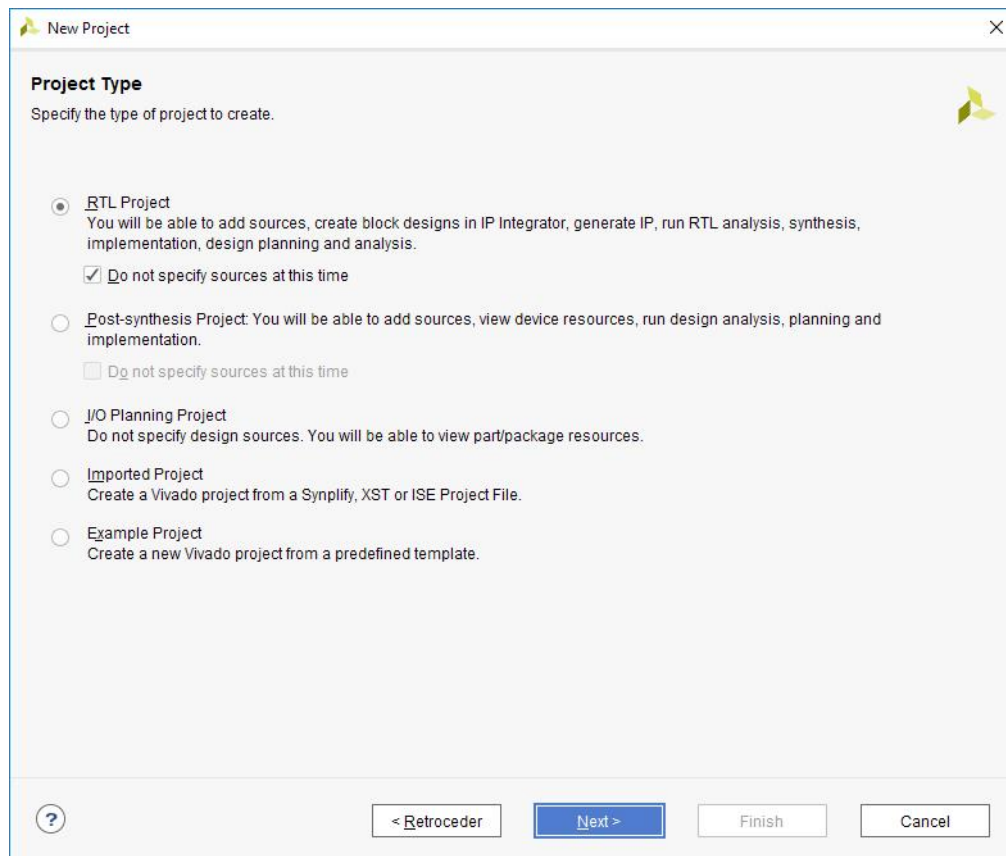

Figure 2
6. In the **Project Type** window select **RTL Project** and check the **Do not specify sources at this time** box (Figure 2)